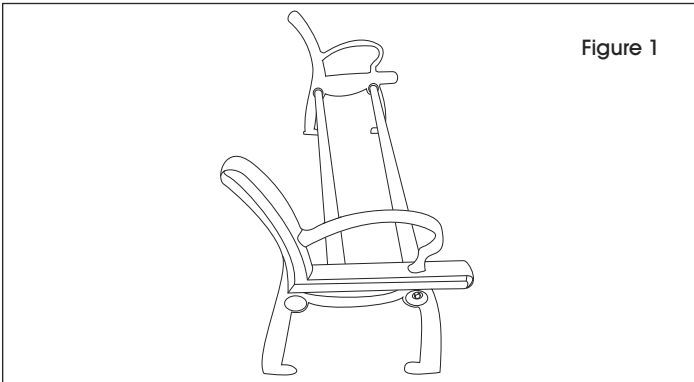

Figure 1
2. Loosely attach cross support rods to side frames with bolts and washers using power drill and 17 mm socket bit. (See Figure 1)